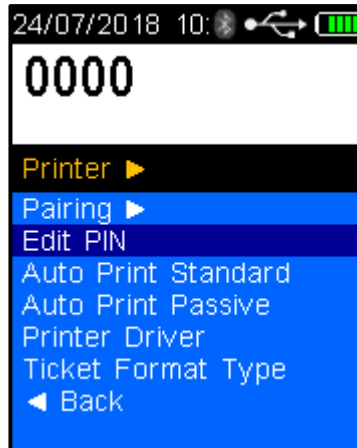

Figure 83 - Edit PIN
- Use the down arrow and test key to select Edit PIN (Refer to Figure 83).